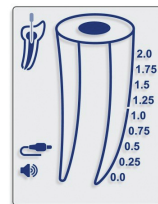

Fig. 4
5.4.7. Plug the measuring cable into the device and make sure that the cable icon appears on the display (Fig. 4).